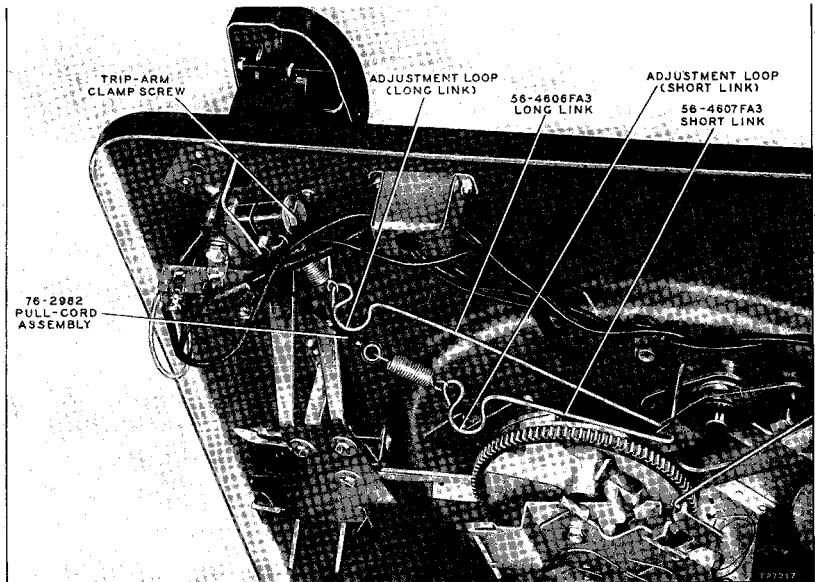
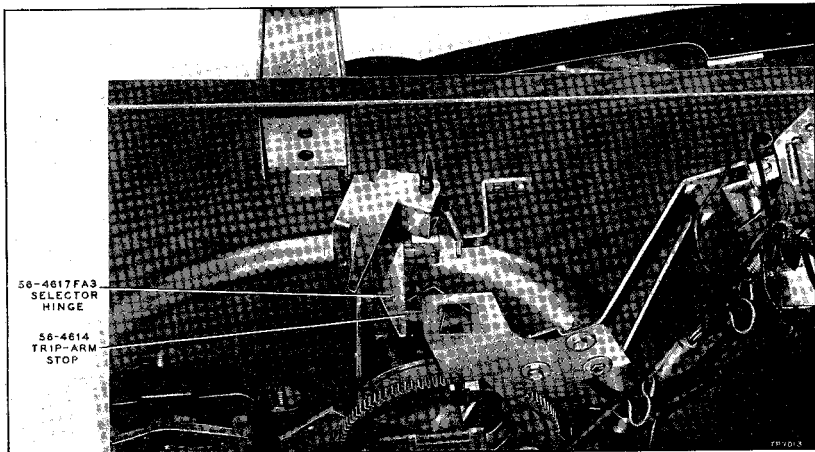
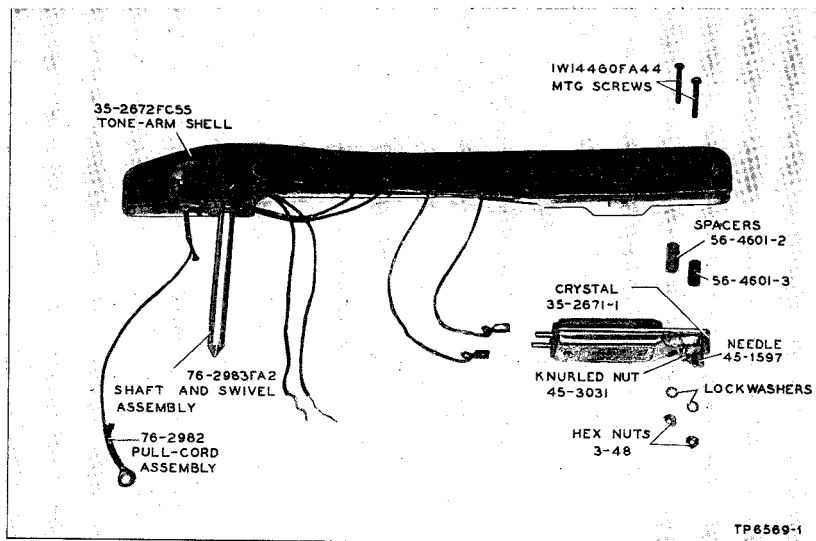

Figure 12. Loop Adjustments and Trip-Arm Clamp Screw
Figure 13. 10' Indexing Adjustment
Figure 22. Record-Changer Tone-Arm Assembly, Part No. 35-2663-2
Loosen the clamp screw on the trip arm (figure 12). Hold the tone arm (steady)  $\frac{1}{8}$ " in from the edge of the record, and set the trip arm so that the trip-arm stop is in contact with the selector hinge (Part No. 56-4617FA3). See figure 13.
For the vertical adjustment, start with the changer out of cycle. Push the REJ.—AUT.—MAN. control to REJ., and rotate the turntable, by hand, three-quarters of a revolution; this setting can be obtained more accurately by making a mark on the turntable to coincide with some starting point. At the three-quarter-revolution point, the leading edge of the cam surface is approximately  $\frac{1}{4}$ " from the end of the lift actuator lever, Part No. 76-4193; this is the lower actuator lever, shown in figure 17. Adjust the wire loop of the short link, cord, and spring assembly (figure 12), attached to the tone-arm lift pin, by squeezing or opening the loop until the tone-arm lift pin makes contact with the lower ear of the tone-arm swivel.
For the horizontal adjustment, rotate the turntable another three-quarters revolution from the point at which the vertical adjustment was made. At this point, the leading edge of the cam surface is approximately  $\frac{1}{4}$ " from the end of the horizontal-return actuator lever; this is the upper actuator lever, Part No. 76-2987, shown in figure 18. Adjust the wire loop of the long link and spring assembly (figure 12), attached
- Drop cartridge below tone arm sufficiently to allow removal of the two clips from cartridge, as shown in figure 22. If pickup leads are shielded, unsolder shield.
- Loosen clamp screw which holds trip arm to tone-arm shaft, Part No. 76-2983FA2 (figure 12). Lift out tone arm and shaft. The tone-arm assembly is shown in figure 22.